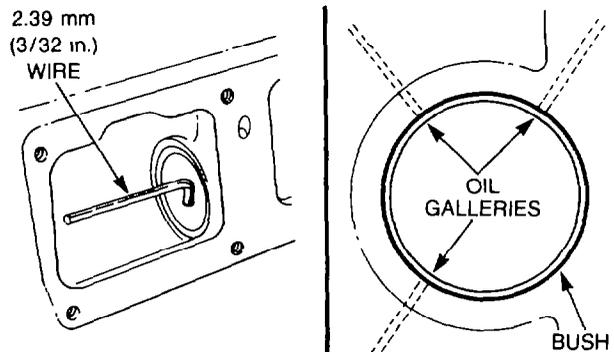

Figure 44 — Oil Gallery Hole — Alignment
- b. Check the alignment of the bush oil holes and the cylinder block oil galleries using a 2.39 mm (3/32 in.) diameter rod (see Fig. 44). The rod must pass through the oil holes in the bush and the cylinder block oil galleries, remove and realign any bush incorrectly located.